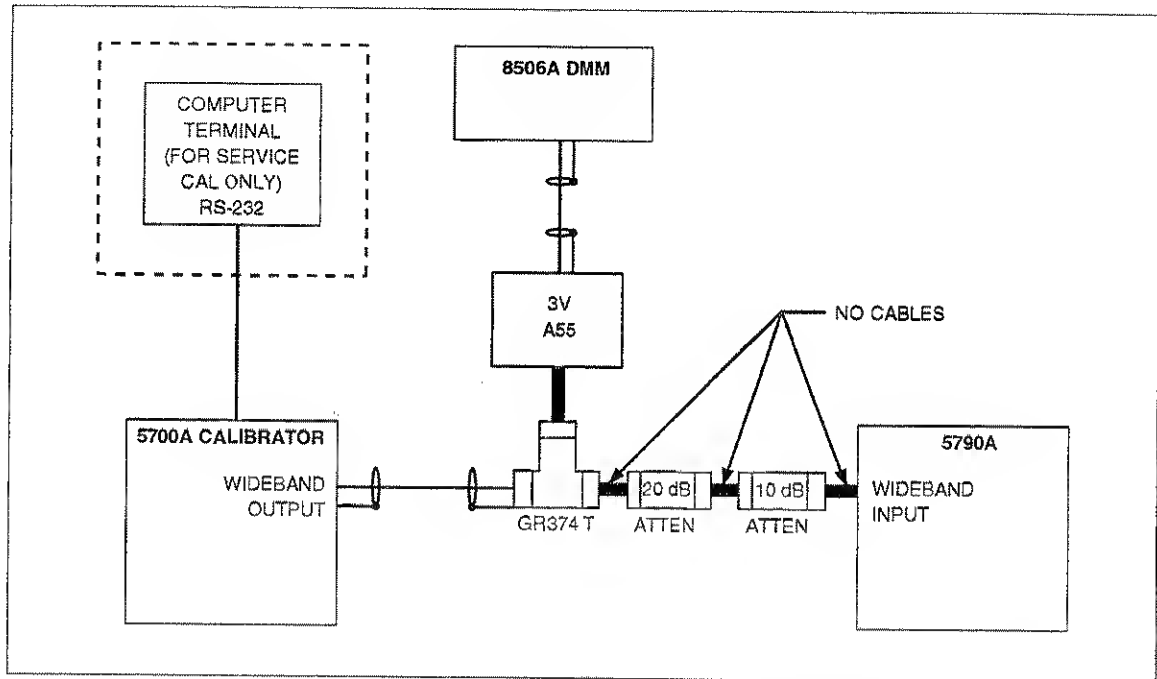

Figure 3-10. Wideband Calibration Source Characterization, Part 1
1. Connect the equipment as shown in Figure 3-10. Make sure that all connections are tight. The A55 must be loaded with 50Ω (by connecting it as shown in the figure) or it will be destroyed when the voltage is applied.